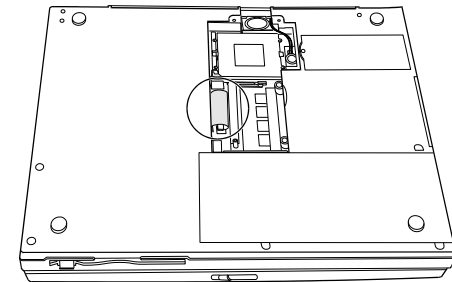

Figure 5-8. Unplugging the CD-ROM Drive Cable
3. Connect the CD-ROM/DVD-ROM drive cable to the system board.(fig 5-8)